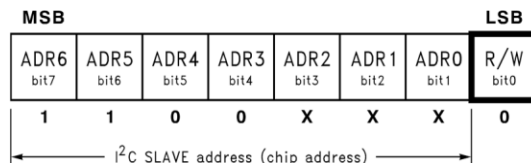

Figure 4. Chip Address Byte
5. The LP3943 provides for an externally selectable I2C slave address via the ADR0, ADR1, and ADR2 inputs. See Figure 4.
After the START condition, a chip address is sent by the I²C master. This address is seven bits long followed by an eighth bit which is a data direction bit (R/W). The LP3943 hardwires bits 7 to 4 and leaves bits 3 to 1 selectable, as shown in Figure 4. For the eighth bit, a “0” indicates a WRITE and a “1” indicates a READ. The LP3943 supports only a WRITE during chip addressing. The second byte selects the register to which the data is written. The third byte contains data to write to the selected register.